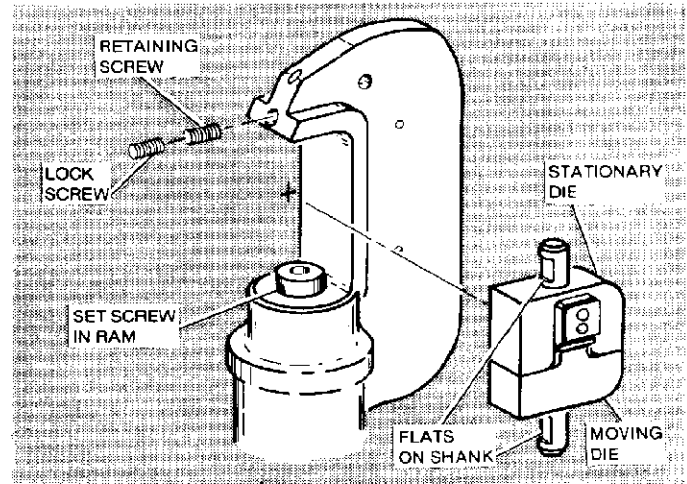

Figure 1
- Remove locking screw and loosen retaining screw in top section of crimping head. See Figure 1.
- Insert shank of stationary die into top section of crimping head and tighten retaining screw. Insert locking screw and tighten. See Figure 1.
- Loosen set screw and insert shank of moving die into ram well. Tighten set screw. See Figure 1.